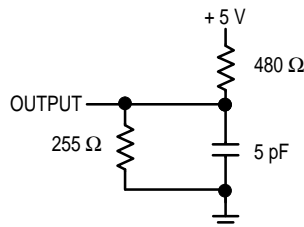

Figure 1B
- Transition is measured ± 500 mV from steady-state voltage with load of Figure 1B. This parameter is sampled rather than 100% tested. At any given voltage and temperature, tKHQZ max is less than tKHQZ1 min for a given device and from device to device.